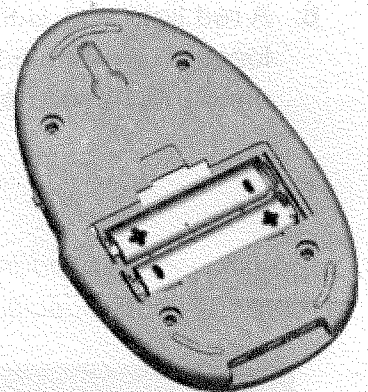

Figure 1
1. Open the battery compartment cover and insert two AAA size batteries (Included). Make sure the batteries are installed correctly (see figure 1).